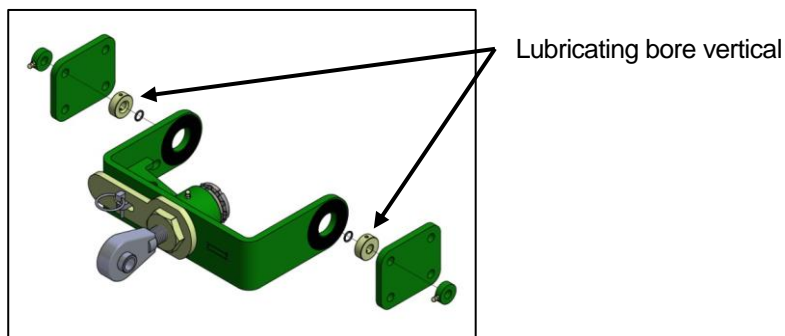

Fig. 17: Mounting the top link
2. Place the lubricating adapters with O-ring (4) in the bores of the top link. Pay attention to the position of the lubricating bore (-> Fig. 17). The O-ring is between the lubricating adapters and the tractor frame.